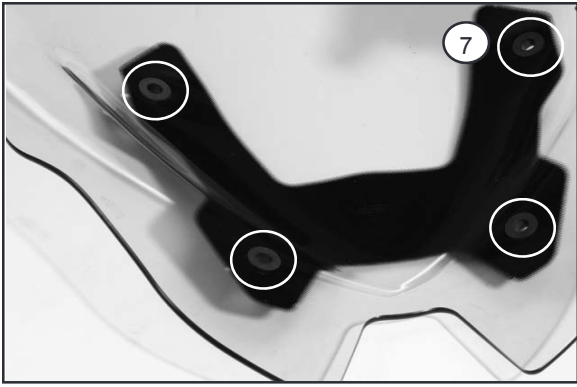

Figure 2
1. Insert 1 Grommet (7) into each hole in windshield. Figure 2